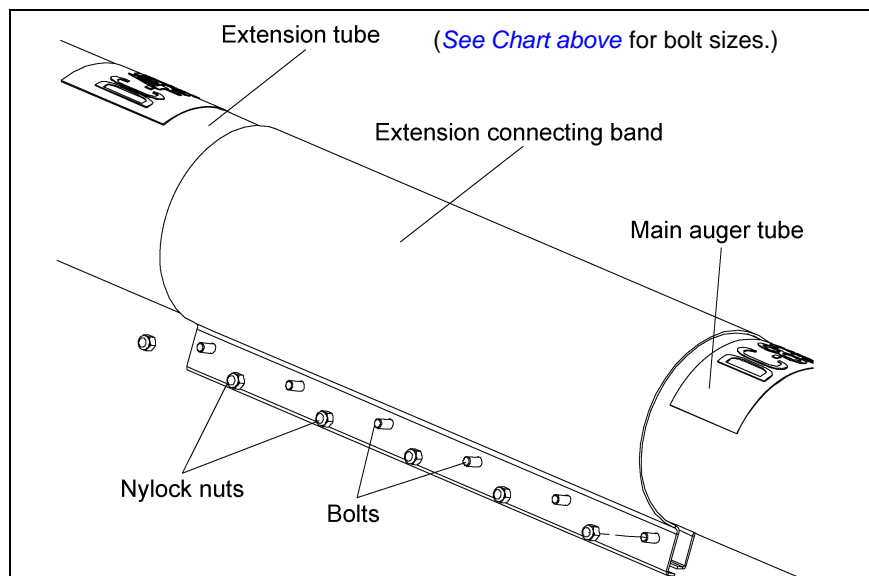

Figure 4O
4. Slide the extension connecting band over the two (2) sections of tube, making sure the connecting band is centered over the mated surfaces of the tubes. Tighten the connecting band down using the correct hex bolts and nylock nuts. (See Chart below and Figure 4O.)